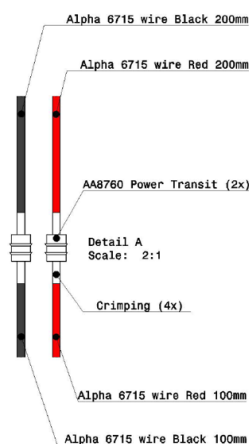

Figure 14 Finalized power feedthrough.
- Crimp wires to power transits as indicated in Figure 14.